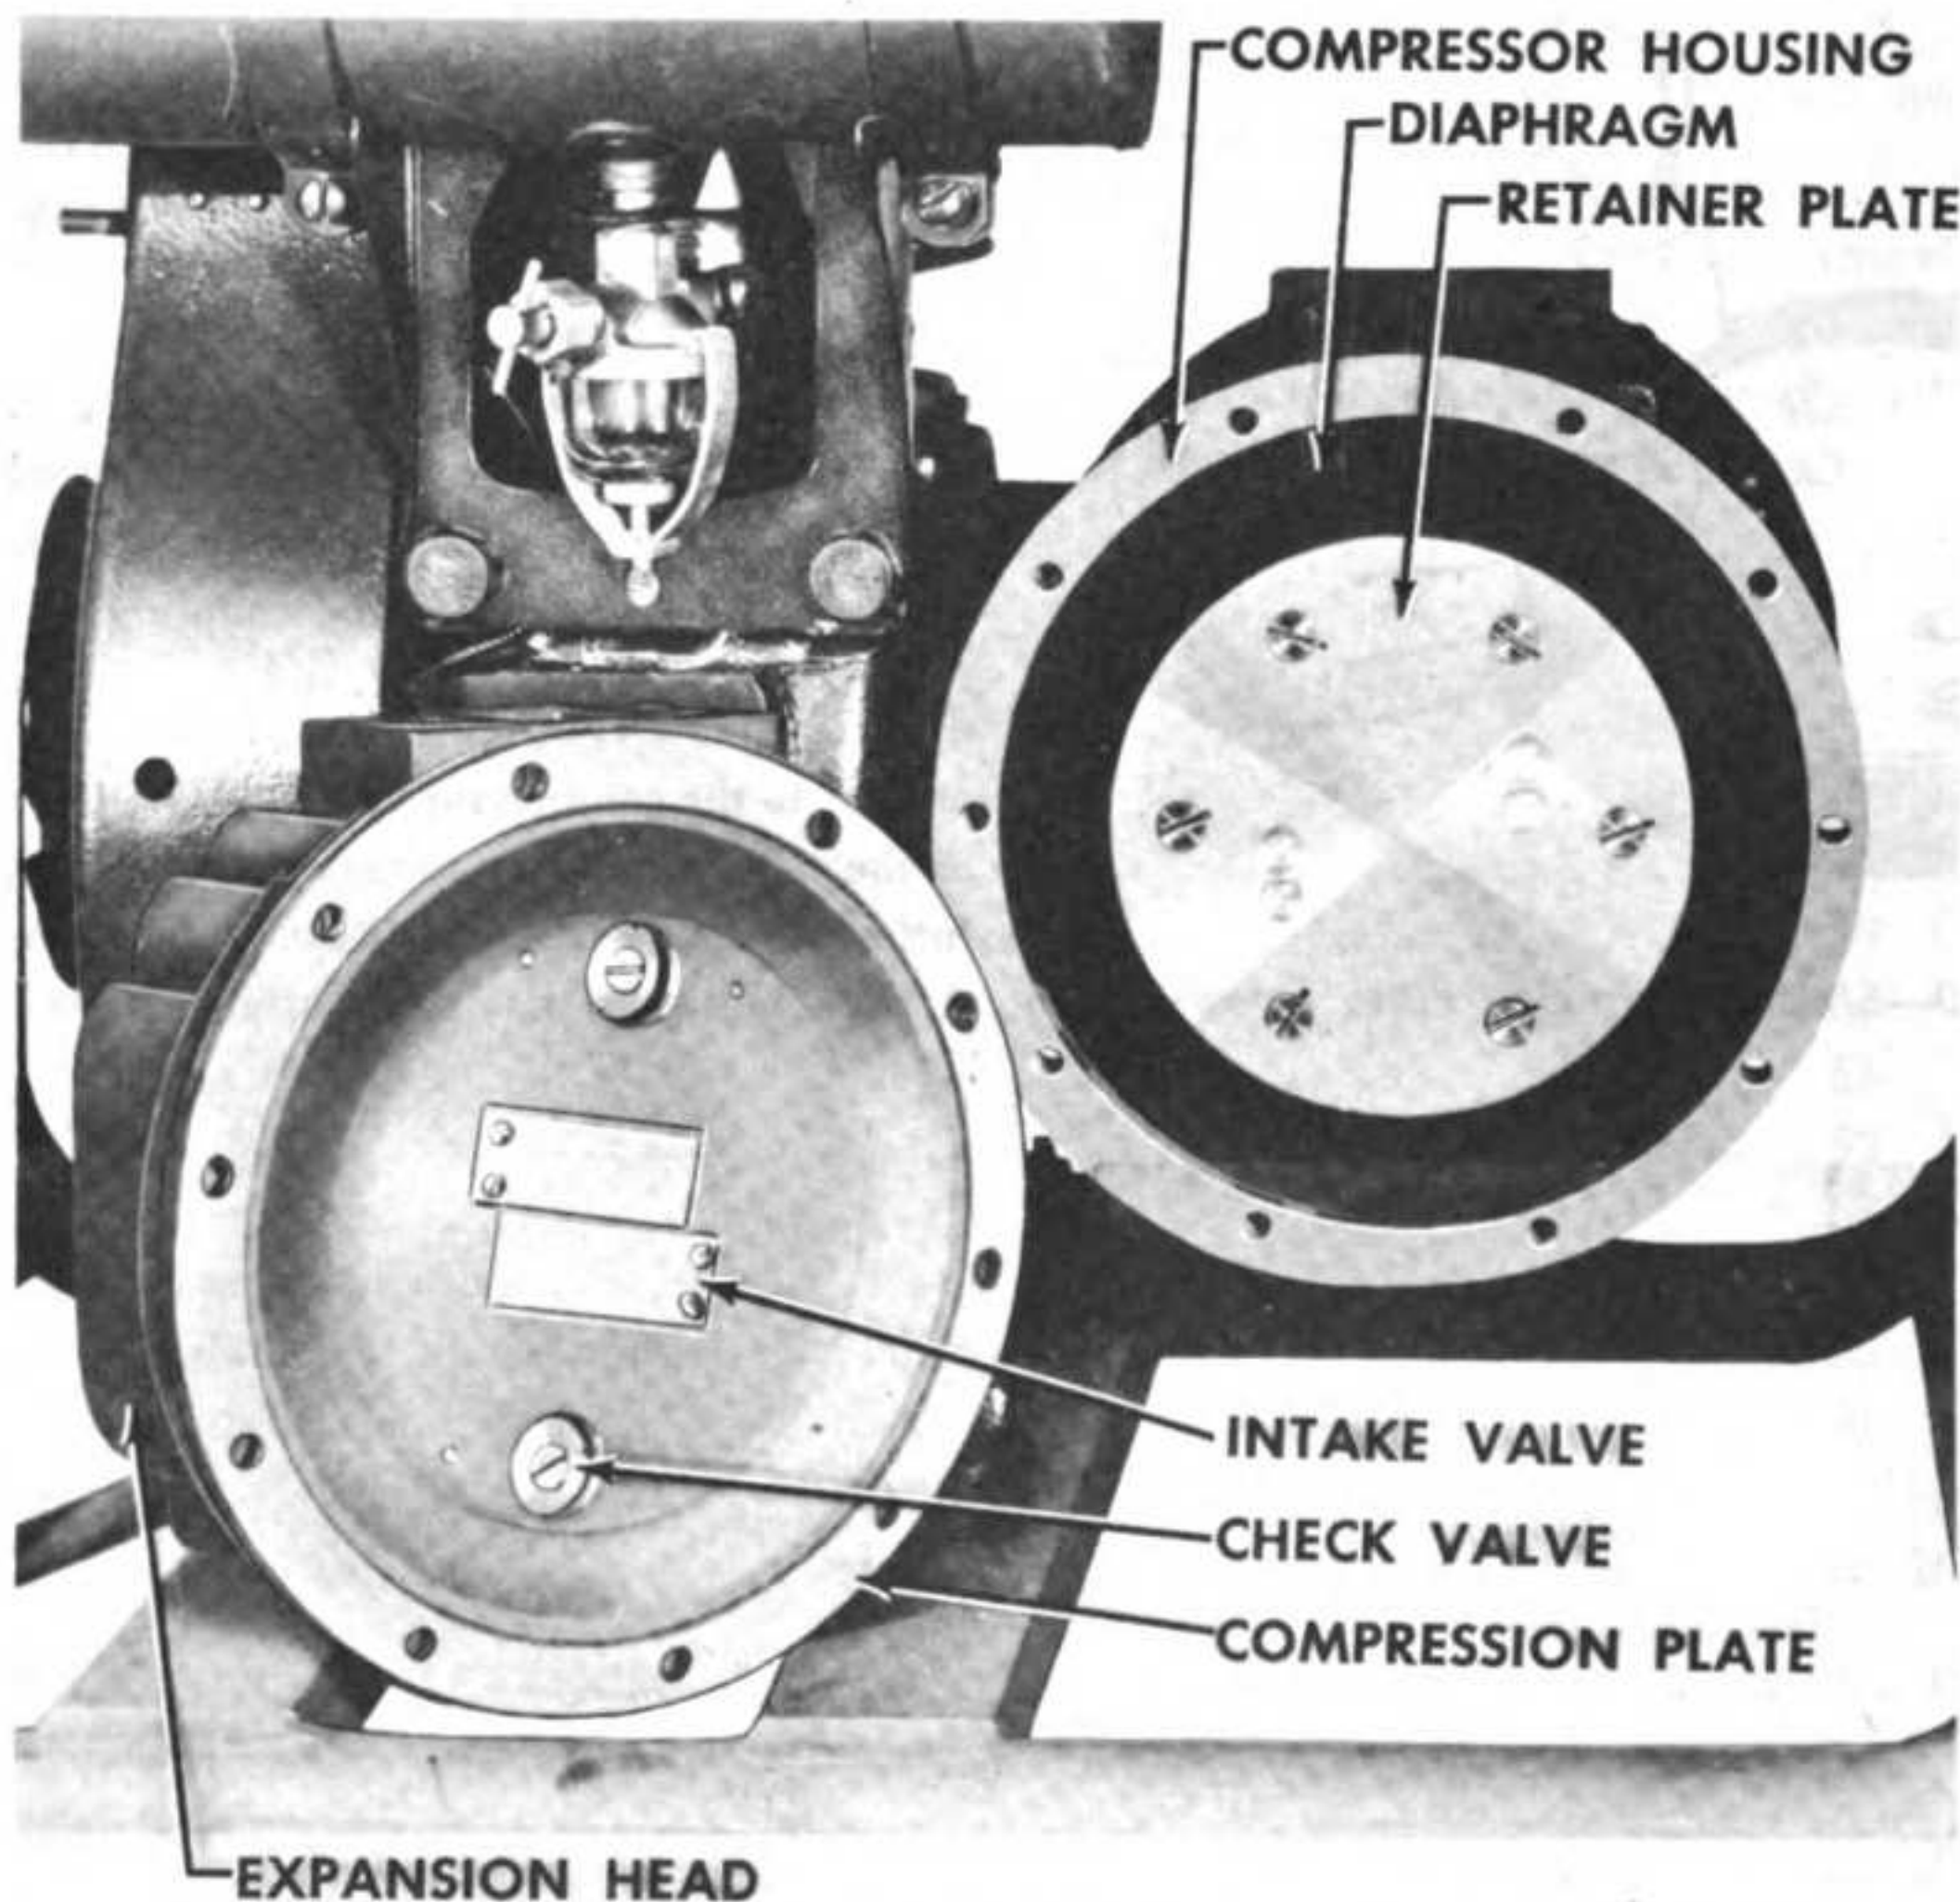
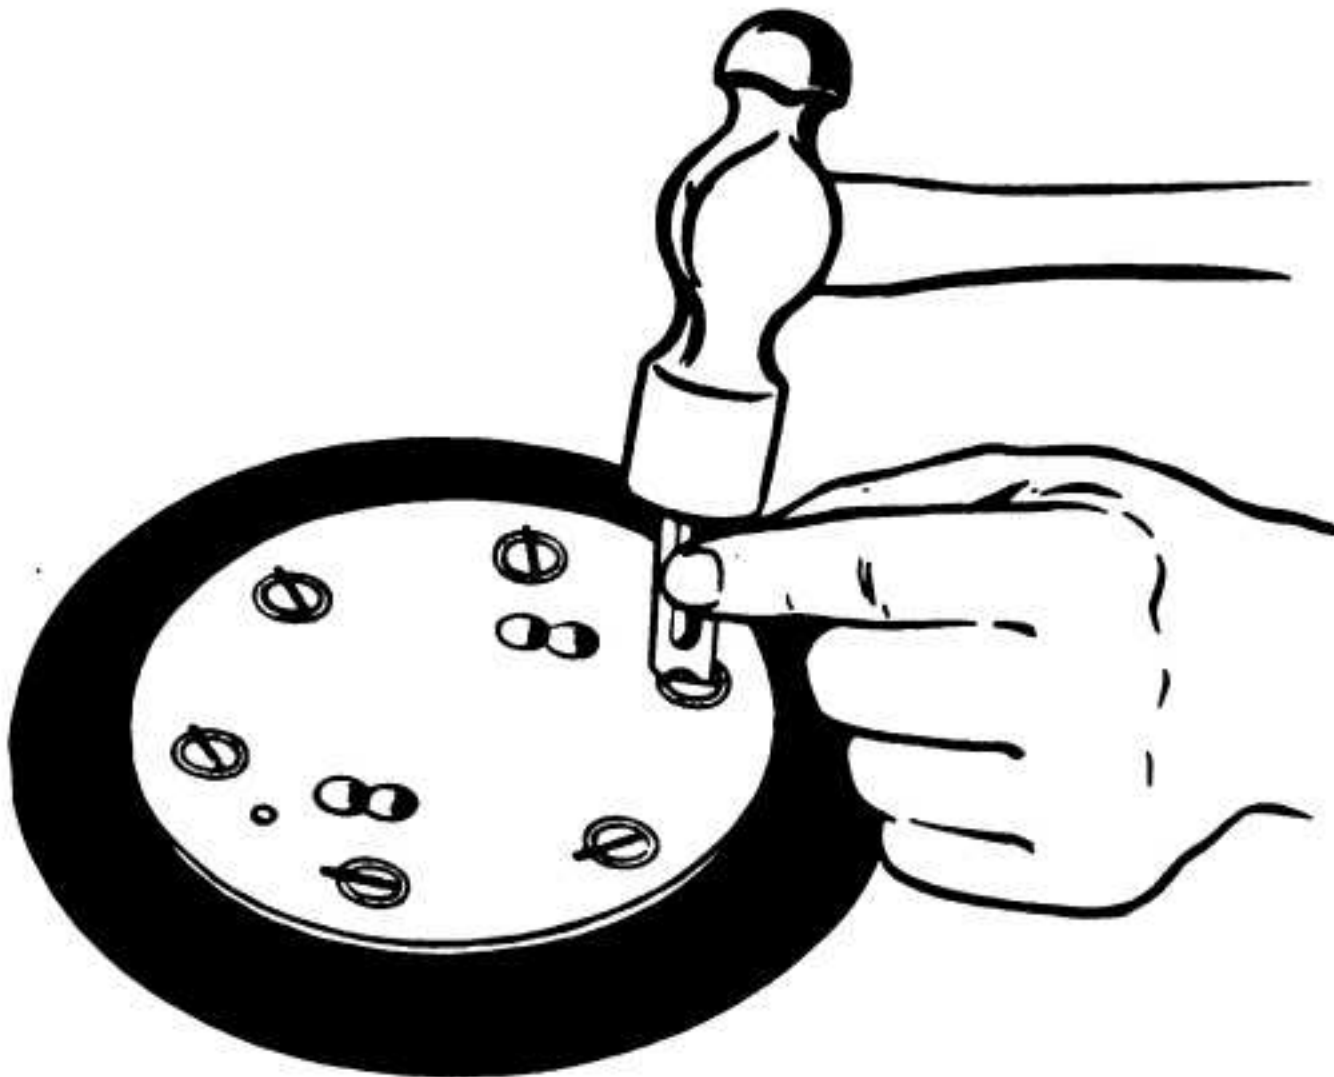

Figure 29—Expansion Head and Compression Plate Removed from Compressor Housing
Figure 30—Staking Retaining Plate Screws
- (1) Wash metal parts in SOLVENT, dry cleaning; dry thoroughly and inspect for wear.
- (2) Position intake valves on the piston side of the compression plate and secure each with two round-head screws. NOTE: No lockwashers are required.
- (3) Position check valves on the expansion head side of the compression plate, position springs and brackets, and secure with screws and lockwashers through brackets.
- (4) With expansion head gasket in place, position the compression plate in the expansion head. (See figure 29.) Secure expansion head and compression plate with ten socket-head capscrews.
- (5) Install the manifold and connect the manifold air tube. (See paragraph 36.c.)
- (1) Position the diaphragms and diaphragm retaining plates on the end of each piston; secure each with six flat-head screws. (See figure 29.) Stake all screws after tightening, using staking tool packed with new diaphragms. Position the tool with the sharp point in the groove around the screw slot and strike with a hammer. (See figure 30.)
(2) With expansion head gaskets in place, position the compression plates and expansion heads. (See figure 29.) Secure each expansion head and com-